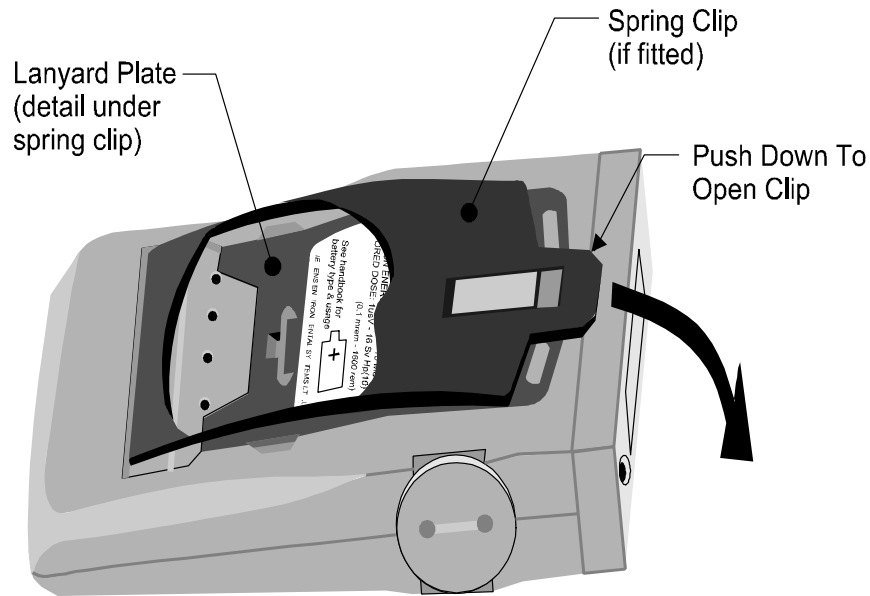

Figure 6.2 - EPD With Clip Assembly
1. If the spring clip is fitted to the lanyard plate, open the jaws of the clip by pushing downwards (see Figure 6.2) to give access to the lanyard plate. A view of the lanyard plate (spring clip removed) is shown in Figure 6.3. Note the tang on the lanyard plate (it is not necessary to remove the spring clip from the lanyard plate in order to gain access to the tang).